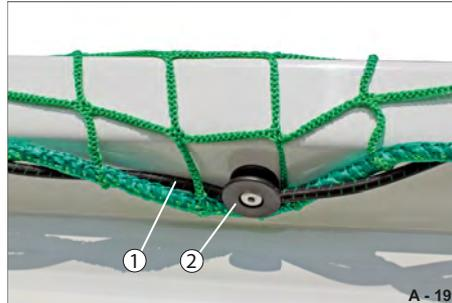

Fig. 211 Stretching out covering net
- ▶ Stretch the expander cord (Fig. 211/1) around the round buttons (Fig. 211/2) one after another.